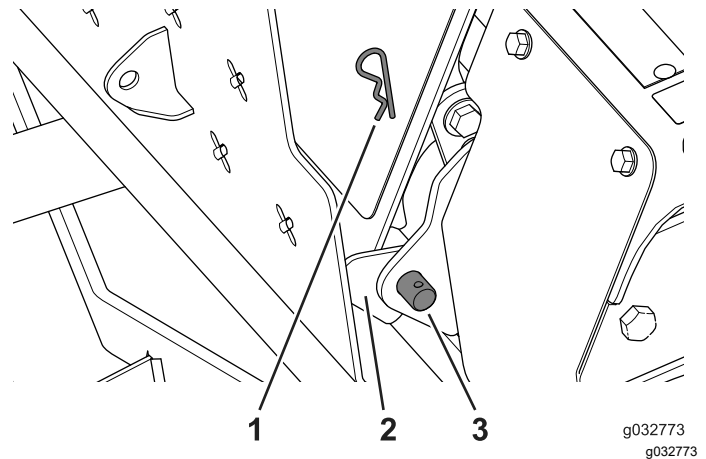

Figure 126
1. Use the pivot pin and hairpin to secure the operator deck as shown in Figure 126.